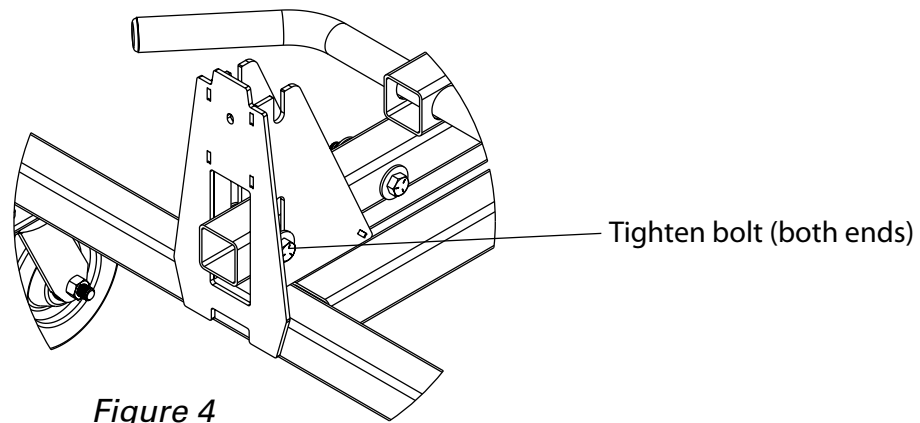

Figure 4
3. Tighten the 2 lower bolts that are captured in the arm support to prevent the folded arms from bouncing or otherwise moving during transport. (See Dis-Assembly Figure 4).